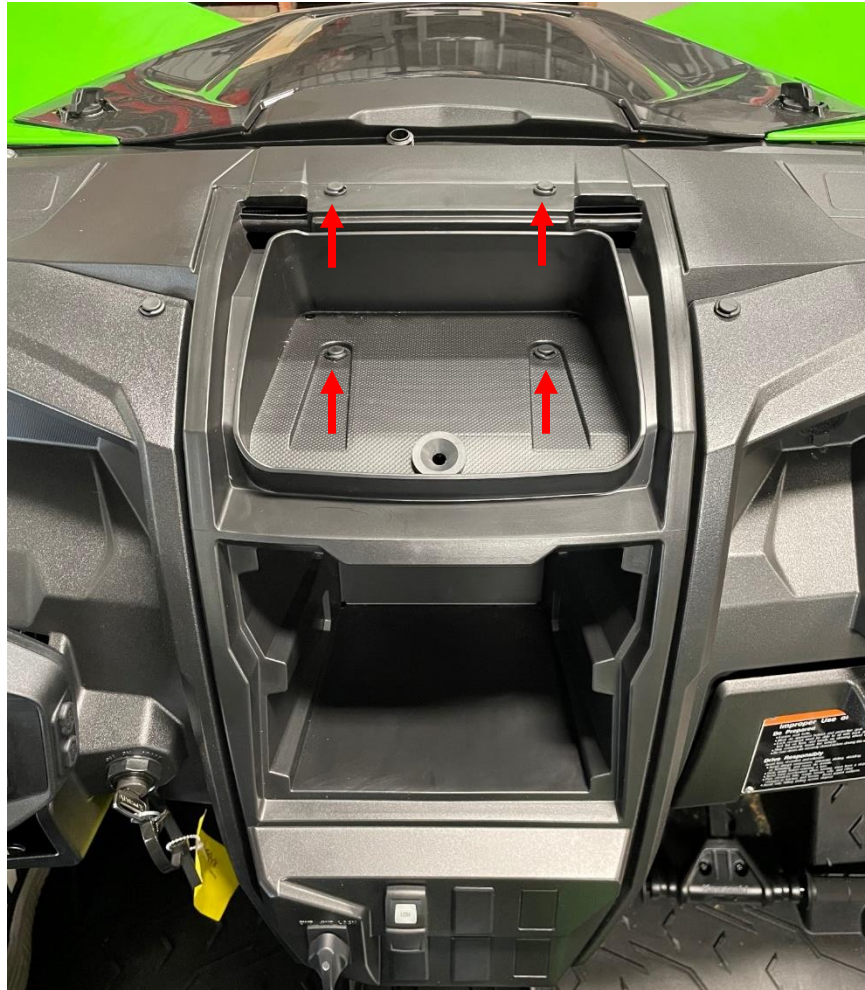
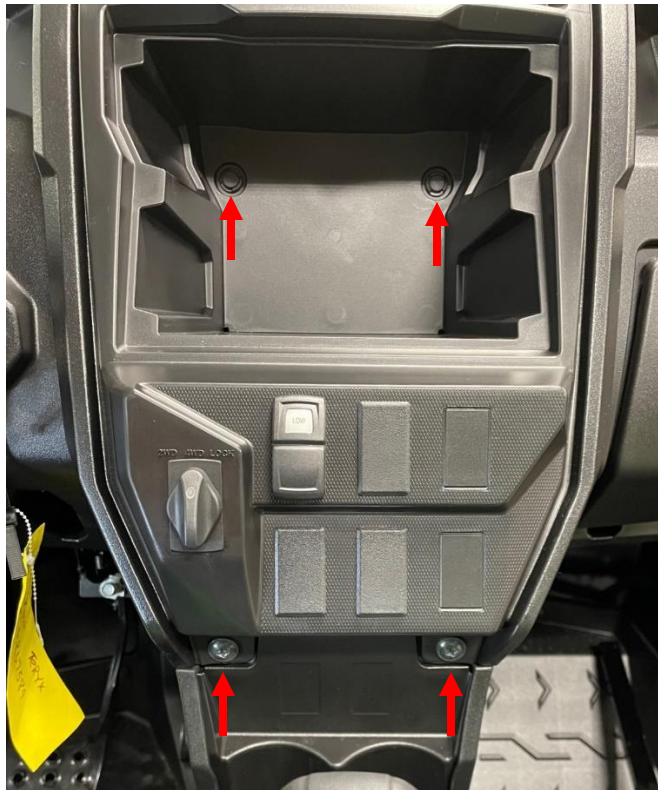

Figure 6: Remove the plastic rivets in the center dash.
Figure 7: Remove the plastic rivets and screws in the center dash.
6. Remove the center dash by popping out the six plastic rivets and removing the two screws shown in Figure 6 and Figure 7. The plastic rivets are released by first prying the center head up then pulling the entire rivet out.
18. Reinstall the plastic rivets and two screws to reinstall and secure the center dash. See Figure 6 and Figure 7.